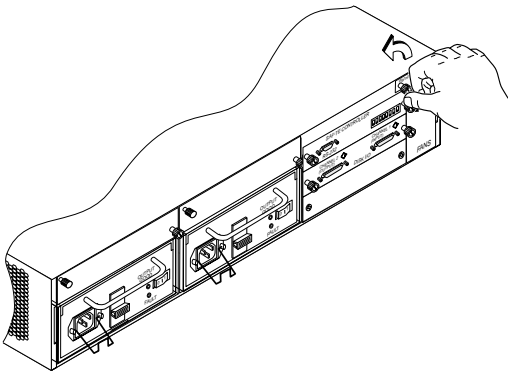

Figure 5-6. Loosening the Screw
- 1 Loosen the screw that secures the cooling fan module to the storage enclosure. See Figure 5-6.